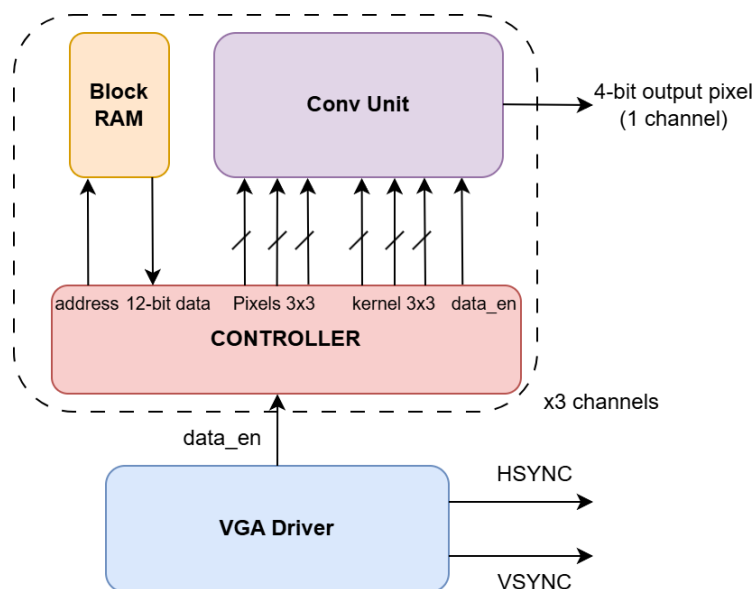

Figure 6: Block Diagram of the Image Processing System
- The image processing system with the top level schematic given at **Figure 6** will be realized in this experiment. Each submodule will be designed separately and connected together in a top module. Each submodule and top module will be simulated and verified. The output image will be recorded to a textfile using a testbench and verified with the MATLAB result. Finally, the system will be shown on a monitor by VGA interface.
3. When all submodule designs are completed, the system must be gathered up in a top level module as seen at Figure 6. Instantiate all the blocks seen at Figure 6.